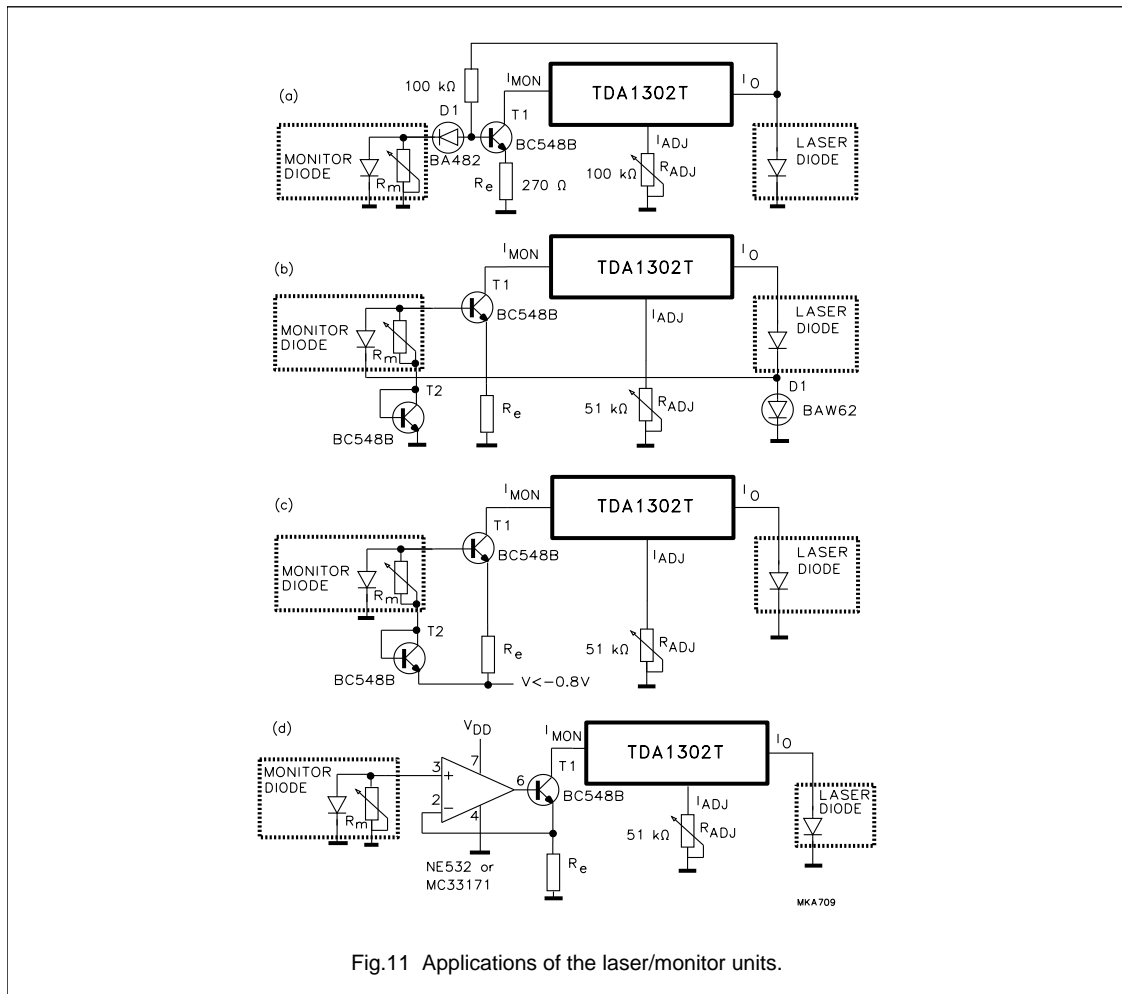

Fig.11 Applications of the laser/monitor units.
The TDA1302T can accommodate all laser/monitor configurations with an N sub-laser diode. When an N sub-monitor diode is used, external circuitry is required as illustrated in Figs 11(a) to 11(d). Most of these laser/monitor diode units have a variable resistor ( $R_m$ ) in parallel with the monitor diode which has been pre-adjusted so that the voltage drop across this resistor has a specific value at nominal laser diode output power. The four circuits given each detail specific values for some frequently used pick-up units as given in Table 3. Each circuit has its own advantages. All circuits illustrated make use of the fixed voltage (<200 mV) across the built-in monitor resistor.
### PROPERTIES OF CIRCUIT FIG.11(a)
**Table 5** Further circuit properties of Fig.11.
In Figs 11(b) to 11(d) solutions have been given requiring no adjustment.  $R_{ADJ}$  and  $R_e$  can be calculated as follows:
Examples of advised values applicable to Fig.11(b), (c) and (d) are given in Table 6.